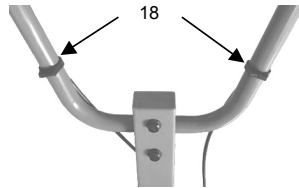

Figure 11
9. Refer to figure 11 to install the Cable bandage.